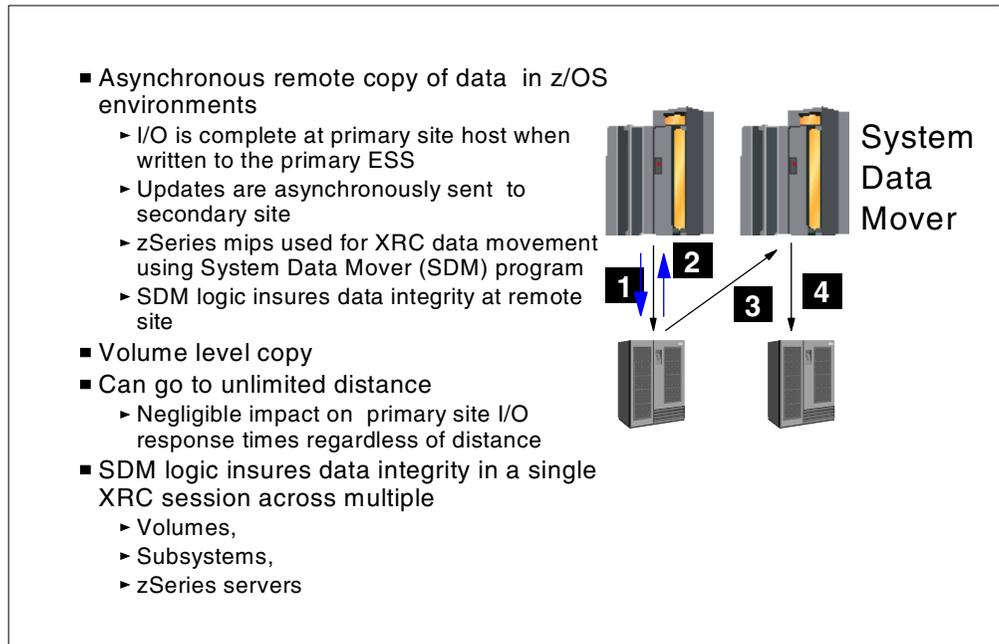

Figure 139. Extended Remote Copy (XRC)
Applications doing write I/Os to primary (source) volumes — (1) in Figure 139 — get a Device End status (write I/O complete) as soon as the data has been secured in cache and NVS of the primary ESS (2). The System Data Mover, that may be running at the recovery site host, reads out the updates to the XRC source volumes from the cache (3) and sends it to the secondary volume on a remote storage control (4).